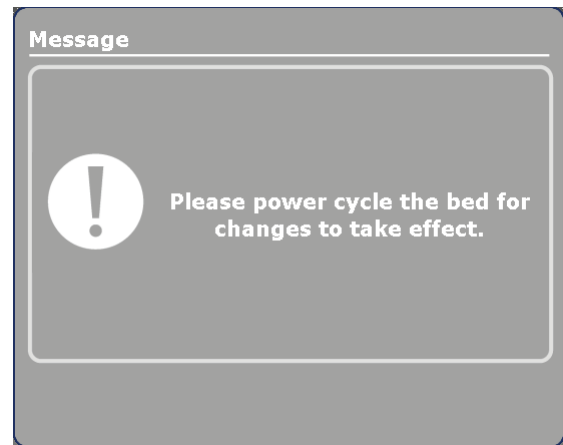

Figure 33 – Power cycle screen
5. A power cycle screen displays (Figure 33).